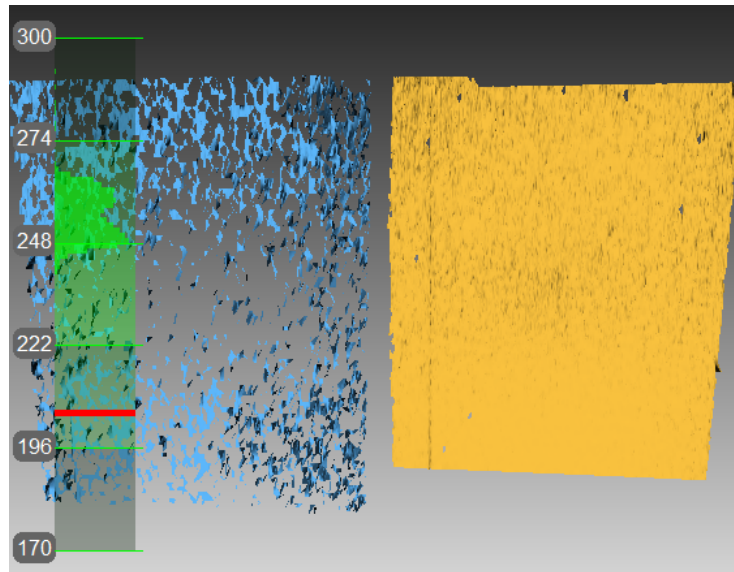

Figure 11.5.: Artec Spider correction results.
In some cases, owing to careless handling or transportation (jolts, accidental drops or some other reason), the scanner may fail to capture surfaces properly. The scanned surfaces may only be partially reconstructed or may contain holes (for example, the results of bad reconstruction are noticeable on the blue surface in Figure 11.5). You can resolve these issues by correcting or calibrating the scanner.
9. Repeat Step 8 three more times. Once you finish, the calculation will start. A yellow plane that corresponds to the surface you captured using the corrected calibration settings will then appear in the *3D View* window (see Figure 11.5.).